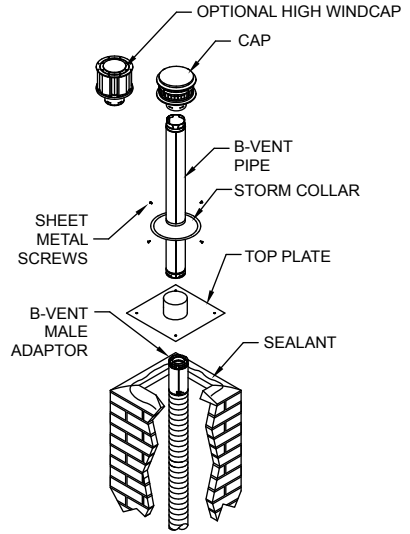

Figure 17
up to 50 feet of Flex or B-Vent Liner. Refer to **Figure 17**.
**Step 4.** Seal the Storm Collar to the Top Plate and twist-lock the B-Vent top to the B-Vent pipe. As an alternative to the standard cap, you may want to install a B-Vent High-Wind Top in areas where excess wind may be a concern (**Figures 17 & 18**).